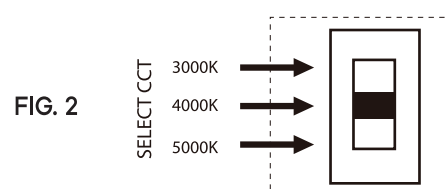

FIG. 2
- CONNECT THE BLACK WIRE FROM THE FIXTURE TO THE BLACK (L) WIRE FROM THE SUPPLY POWER SOURCE.
- CONNECT THE WHITE WIRE FROM THE FIXTURE TO THE WHITE (N) WIRE FROM THE SUPPLY POWER SOURCE.
*ADJUST CCT SWITCH ON THE BACK OF THE FIXTURE ACCORDING TO THE DESIRED COLOR TEMPERATURE AS SEEN IN FIG. 2